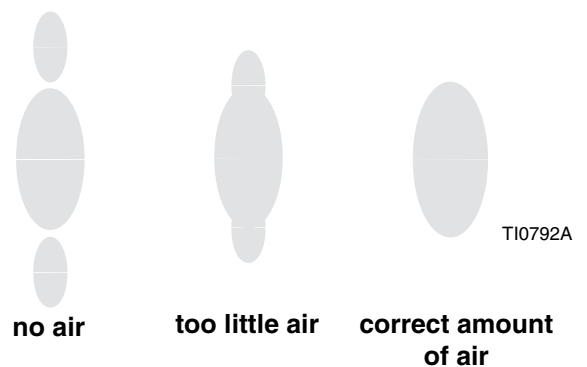

FIG. 15
- Set the atomizing air pressure at about 5 psi (3.5 kPa, 0.35 bar) when triggered. Check the spray pattern, then slowly increase the air pressure until the tails are completely atomized and pulled into the spray pattern. See FIG. 15. Seven to 10 psi (4.9 to 7.0 kPa, 0.49 to 0.7 bar) air pressure is typically enough to atomize the tails, especially for low viscosity materials. Setting the air pressure too high will cause material to build up on the air cap and decrease transfer efficiency. Do not exceed 100 psi (0.7 MPa, 7 bar) air pressure to the gun.